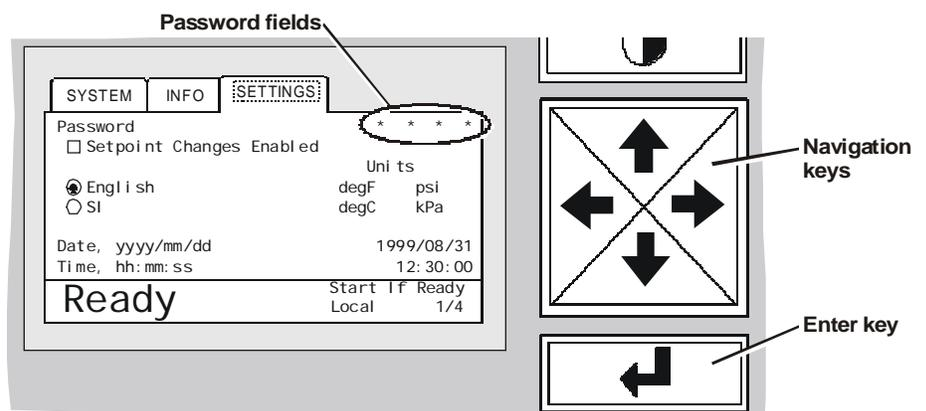

Figure 25. Password fields in Settings folder
- 1 Display the Settings folder (Figure 25) by pressing the left or right navigation key.
- 2 If settings page 1 (Figure 25) is not visible, press the up or down navigation key to display it.
- 1 Display the Settings folder (Figure 25 on page 49) by pressing the left or right navigation key.